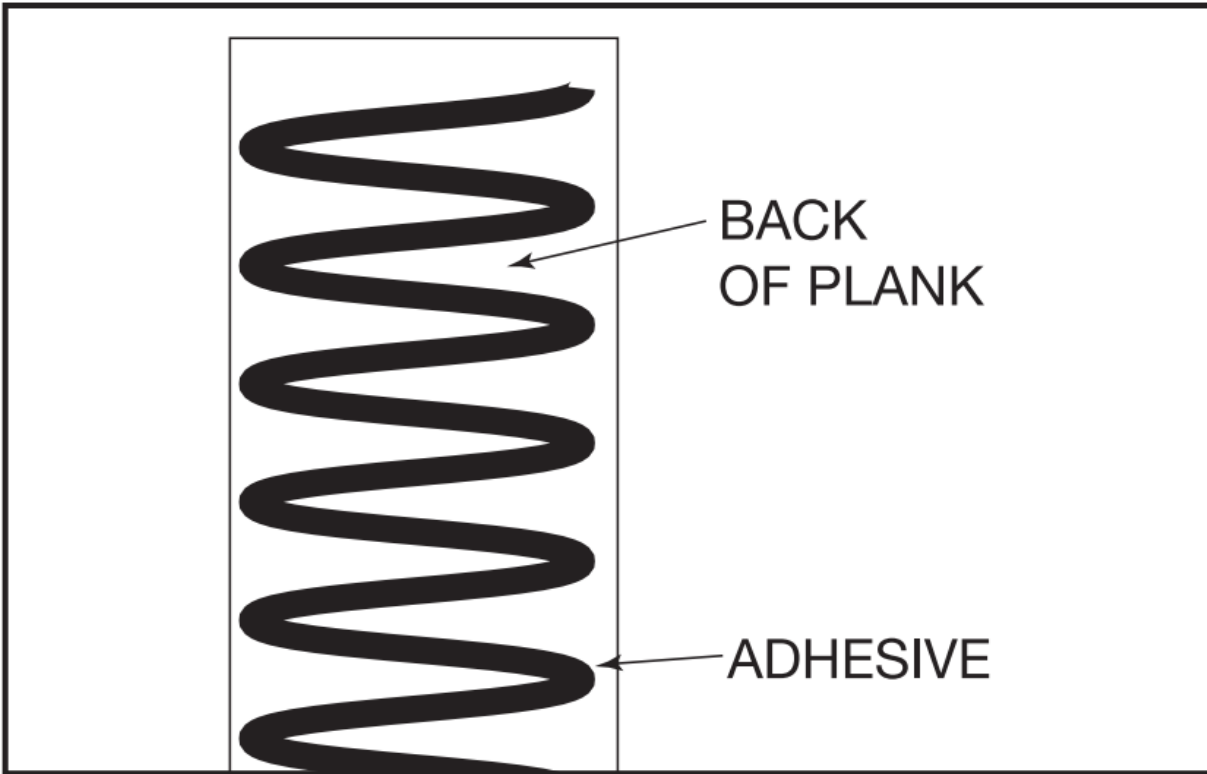

Figure 7
- **If the Engineered Hardwood Flooring plank is wider than 5" it must be installed applying a 1/4" serpentine bead of premium construction adhesive to the back of each board. (Figure 7)**